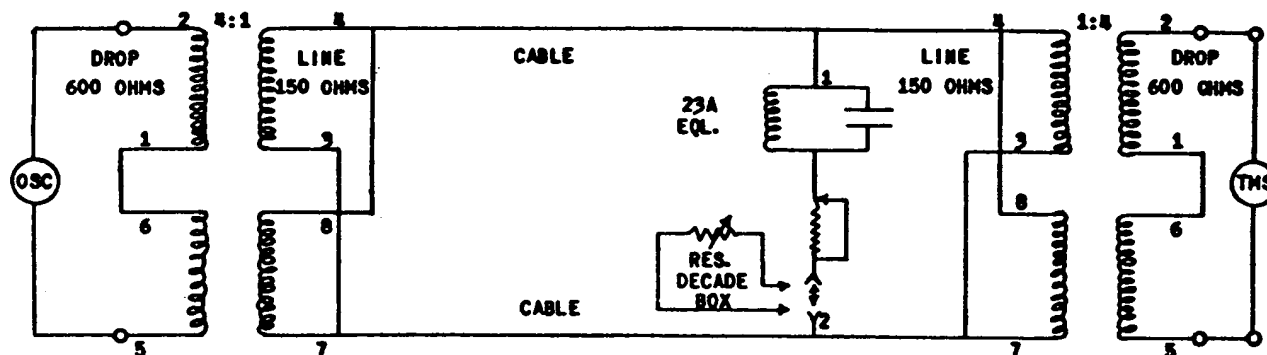

FIGURE 9
- (d) Remove TMS from line and connect equalizer and resistance decade box as shown in Figure 9. Make certain that the equalizer resistances are strapped out and the repeating coil is strapped 1:4 ratio, low impedance side toward the line.
10.06 A typical equalization layout with resistance decade box is shown in Figure 9.